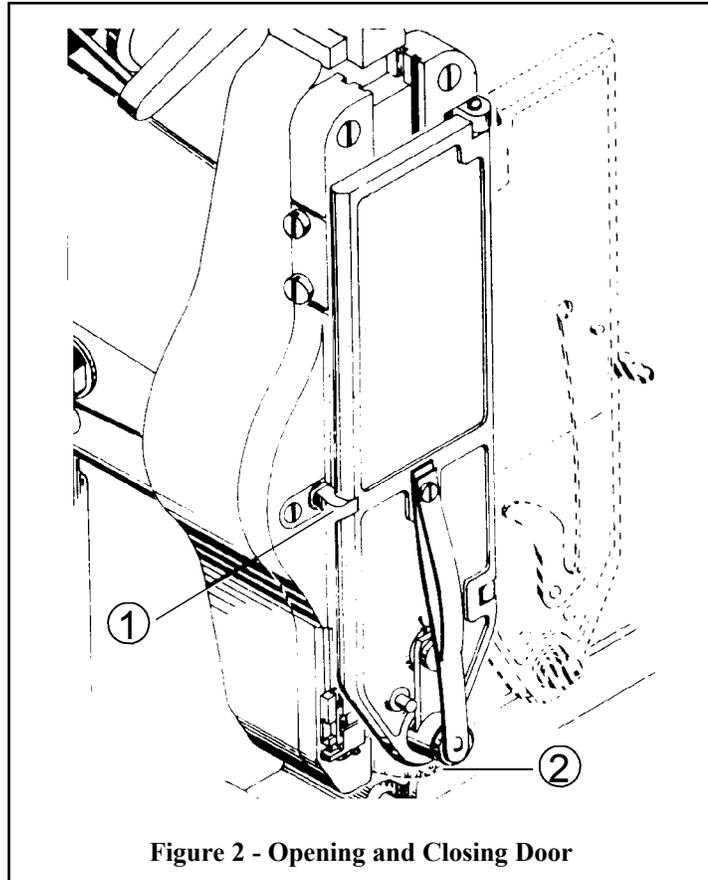

Figure 2 - Opening and Closing Door
Stitcher Head Door (Figure 2)
To open the stitcher head Door, press the Door Latch (1) to the right, thereby releasing the Latch from the Latch Catch and permitting the Door to swing to an open position (shown by the dotted line in Figure 2). To close the Door, first check that the machine is at the top of its stroke (the Supporter (2) will be at a forward position), then depress the Supporter back to its retracted position with one hand and close the Door with the other hand while compressing the Latch (1) until it catches in the Latch Catch.